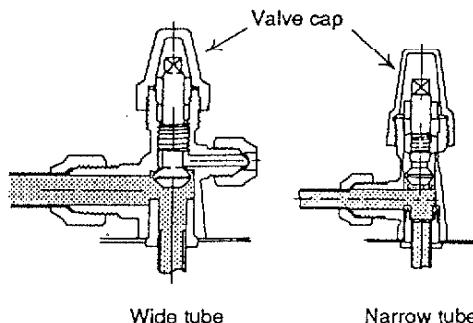

Fig. 19
- h) Next, install the valve caps using copper gaskets. (Fig. 19)